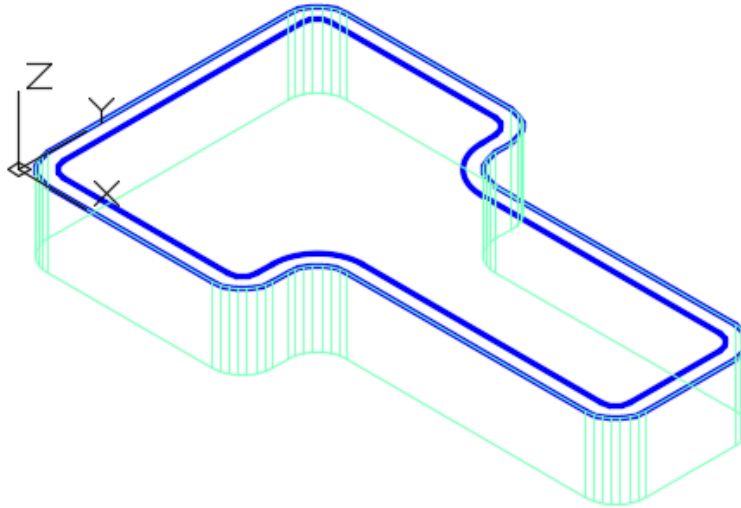

Figure Step 9
Step 9 Set layer: Solid 1 as the current layer. Extrude the outer pline 25 mm in the negative Z. (Figure Step 9)